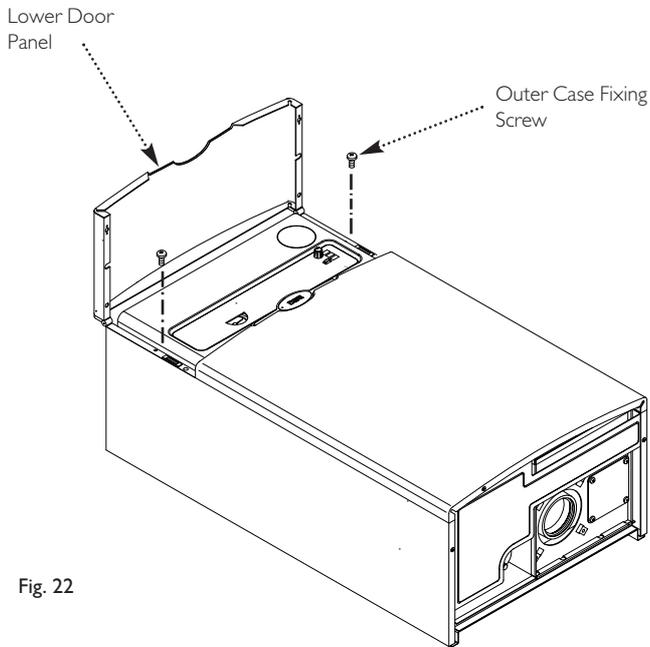
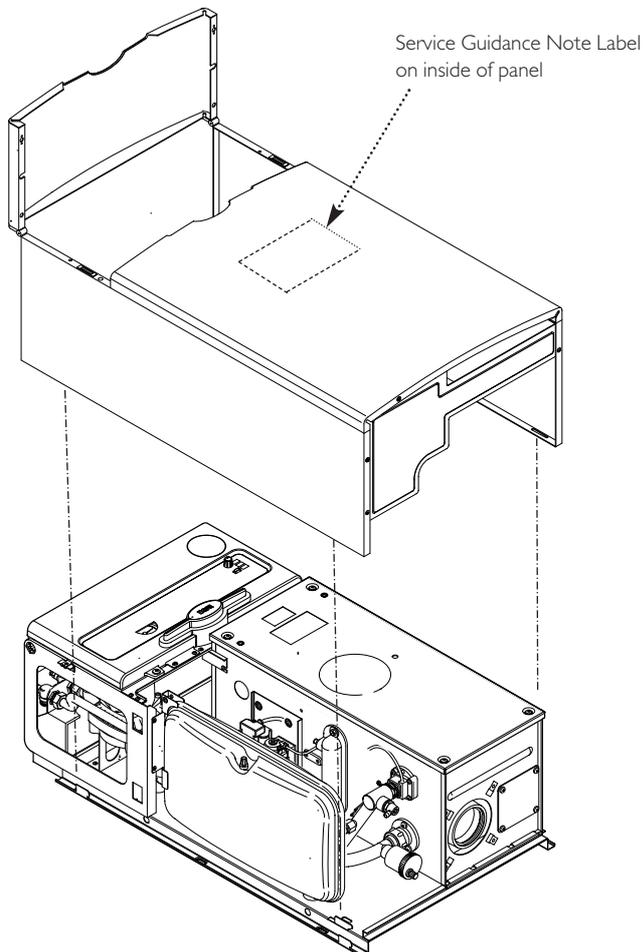

Fig. 22
Fig. 23
2. Hinge up the lower door panel (Fig. 22).
3. Remove the outer case fixing screws (Fig. 22). Slide the outercase upwards to disengage the hooks on the backplate and remove (Fig. 23).
NOTE: Service Guidance Note Label is fitted to the inside of the outercase (Fig. 23).